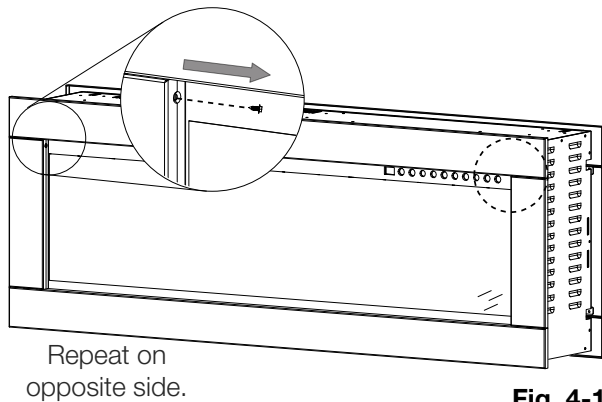

Fig. 4-1
- Remove the 2 screws holding the front trim in place (**Fig. 4-1**). Set screws aside.